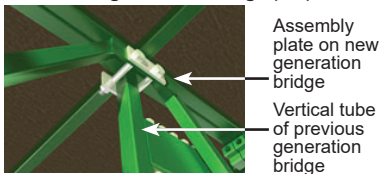

fig. 3.24
- 4- If using at least one new generation bridge in the installation, install the third extension plate assembly at the **TOP** in the middle of the bridge structure by positioning the plates so the holes align with the holes on the plate in the middle of the bridge structure (fig. 3.24). Secure with bolt assemblies.